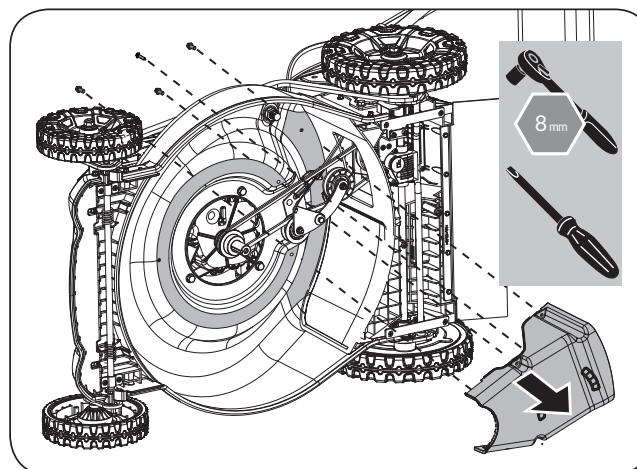

Figure 33
2. Remove the belt cover. (See **Figure 33**)